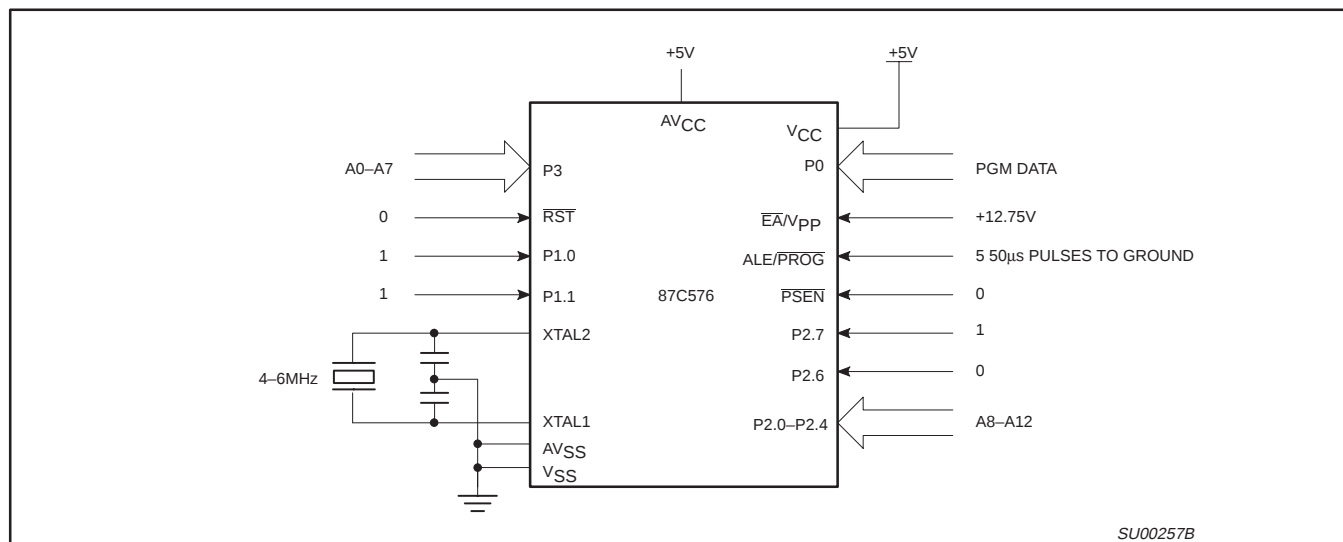
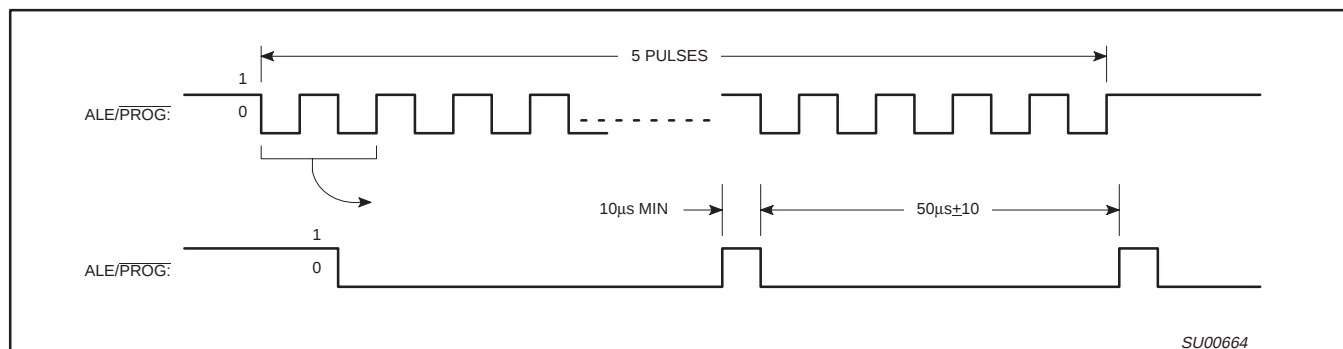
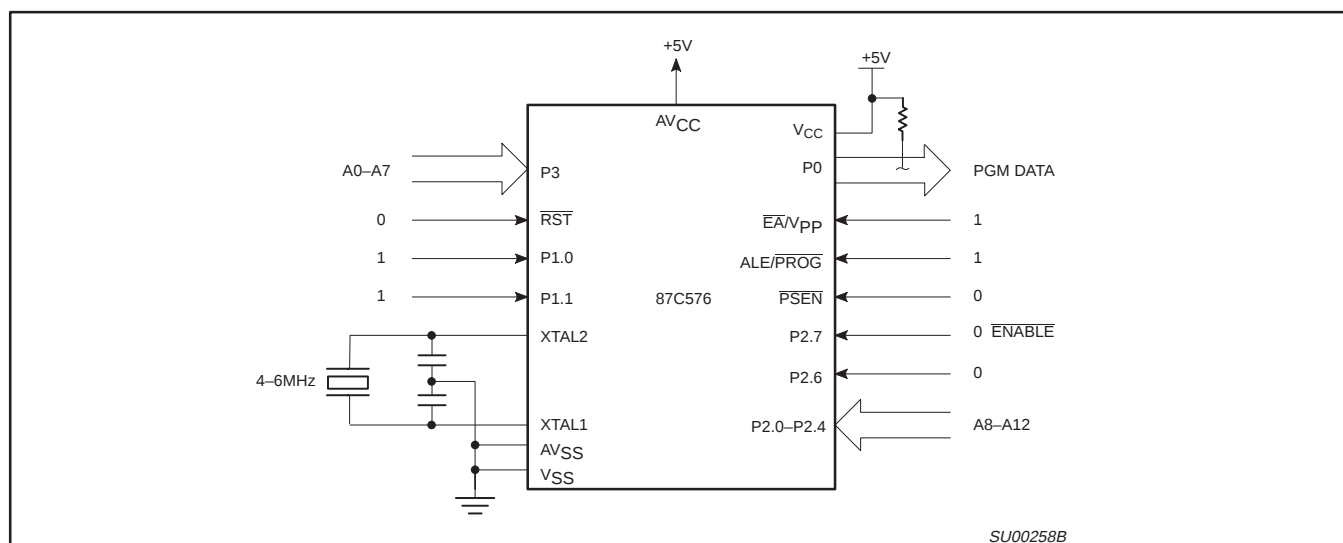

Figure 38. Programming Configuration
Figure 39. PROG Waveform
Figure 40. Program Verification
Table 3 shows the logic levels for reading the signature byte, and for programming the program memory, the encryption table, and the security bits. The circuit configuration and waveforms for quick-pulse programming are shown in Figures 38 and 39. Figure 40 shows the circuit configuration for normal program memory verification.
The setup for microcontroller quick-pulse programming is shown in Figure 38. Note that the 87C576 is running with a 4 to 6MHz oscillator. The reason the oscillator needs to be running is that the device is executing internal address and program data transfers.
The address of the EPROM location to be programmed is applied to ports 3 and 2, as shown in Figure 38. The code byte to be programmed into that location is applied to port 0. RST, $\overline{PSEN}$ and pins of ports 2 and 1 specified in Table 3 are held at the 'Program Code Data' levels indicated in Table 3. The $ALE/\overline{PROG}$ is pulsed low 25 times as shown in Figure 39.
If security bit 2 has not been programmed, the on-chip program memory can be read out for program verification. The address of the program memory locations to be read is applied to ports 3 and 2 as shown in Figure 40. The other pins are held at the 'Verify Code Data' levels indicated in Table 3. The contents of the address location will be emitted on port 0. External pull-ups are required on port 0 for this operation.
* FOR PROGRAMMING VERIFICATION SEE FIGURE 38.
FOR VERIFICATION CONDITIONS SEE FIGURE 40.